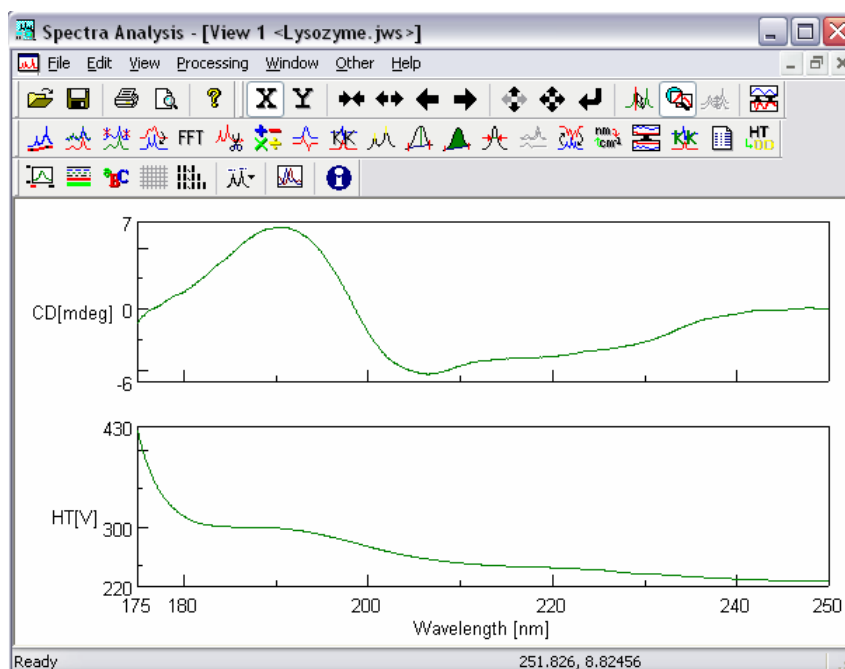

Figure 7.15 Spectrum View (before operation)
- (1) Load a JASCO standard or JASCO Old Std file into the Spectra Analysis Window using the method described in Section 7.2. Fig. 7.15 is an example.